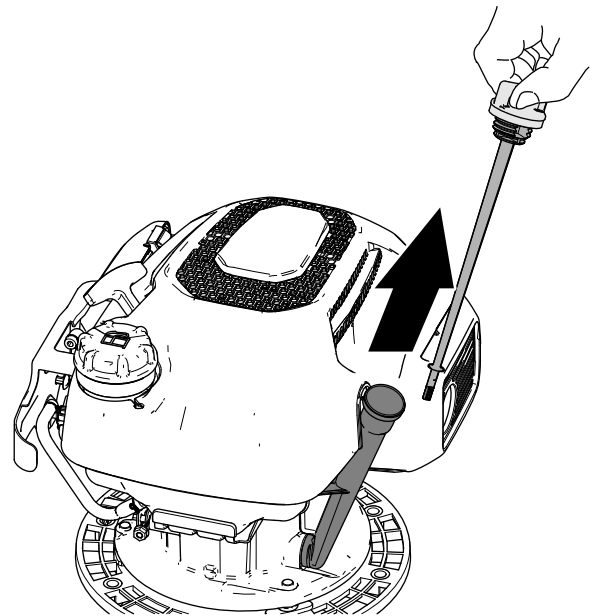

Figure 14
2. Remove the dipstick from the oil-filler neck and wipe the dipstick with a clean rag (Figure 14).